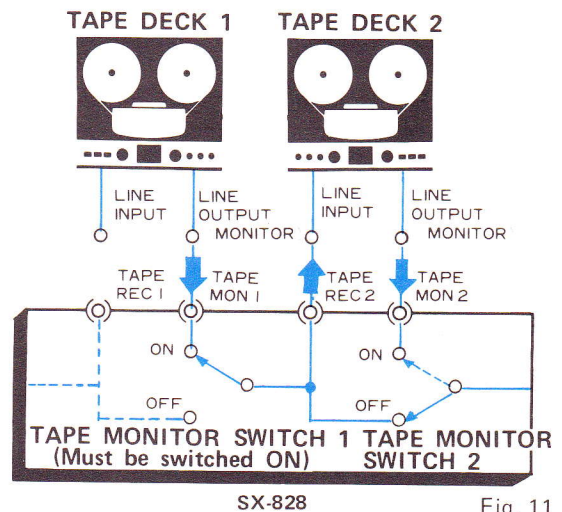

Fig. 11
1. Connect two tape decks as shown in Fig. 11.